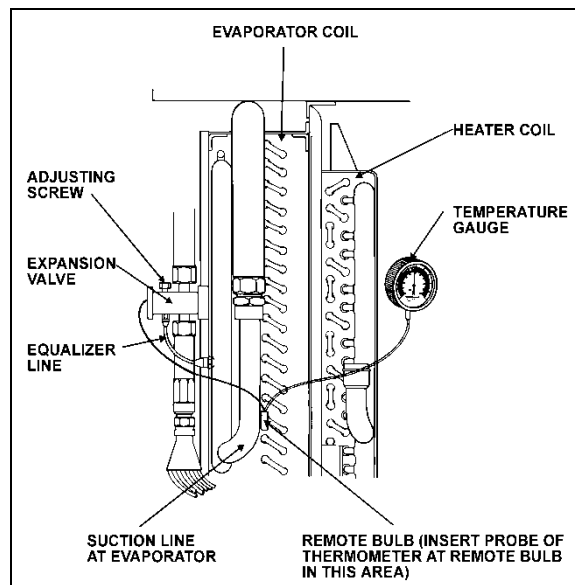

FIGURE 37: SUPERHEAT ADJUST. INSTALLATION 22046
3. Use a remote reading thermometer or thermocouple / multimeter to measure temperature at the evaporator outlet line near the existing remote bulb (Figure 37).